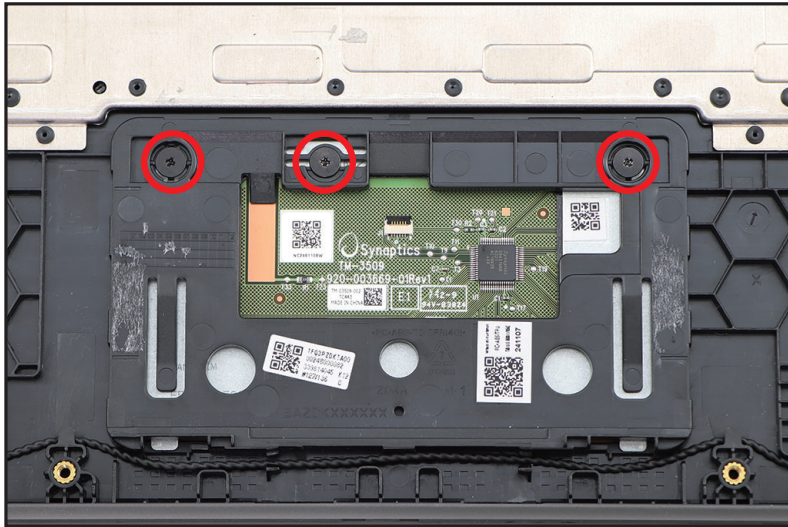

Figure 1-16. Touchpad Module Removal
5. Remove three (3) screws securing the touchpad module (Figure 1-16).